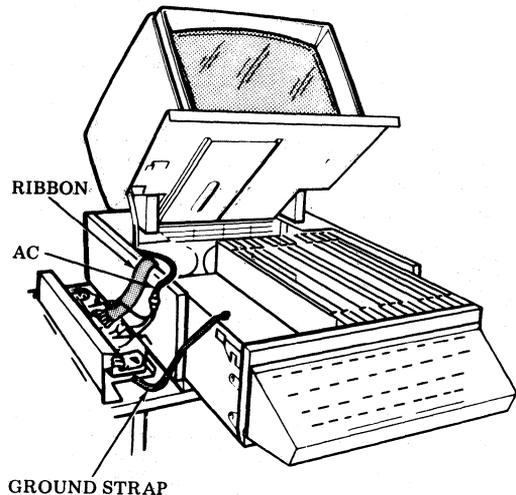

Fig. 10—Equipment Layout
3.02 Arrange the power supply, with the cover removed (Fig. 10), next to set or station as shown. Leave power turned off and circuit card fully mounted for now.